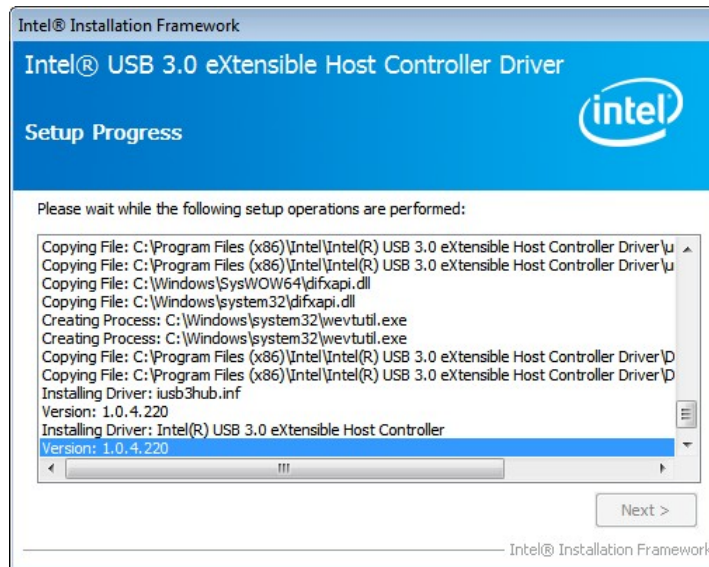

Figure 6-22: USB 3.0 Driver Setup Operations
**Step 11:** **Setup Operations** are performed as shown in **Figure 6-22**.